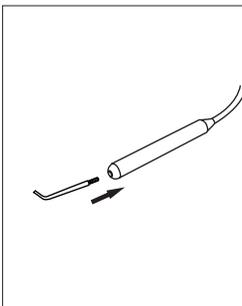

Fig.21
- 5) Insert the tooth probe into the handle. (Fig.21)